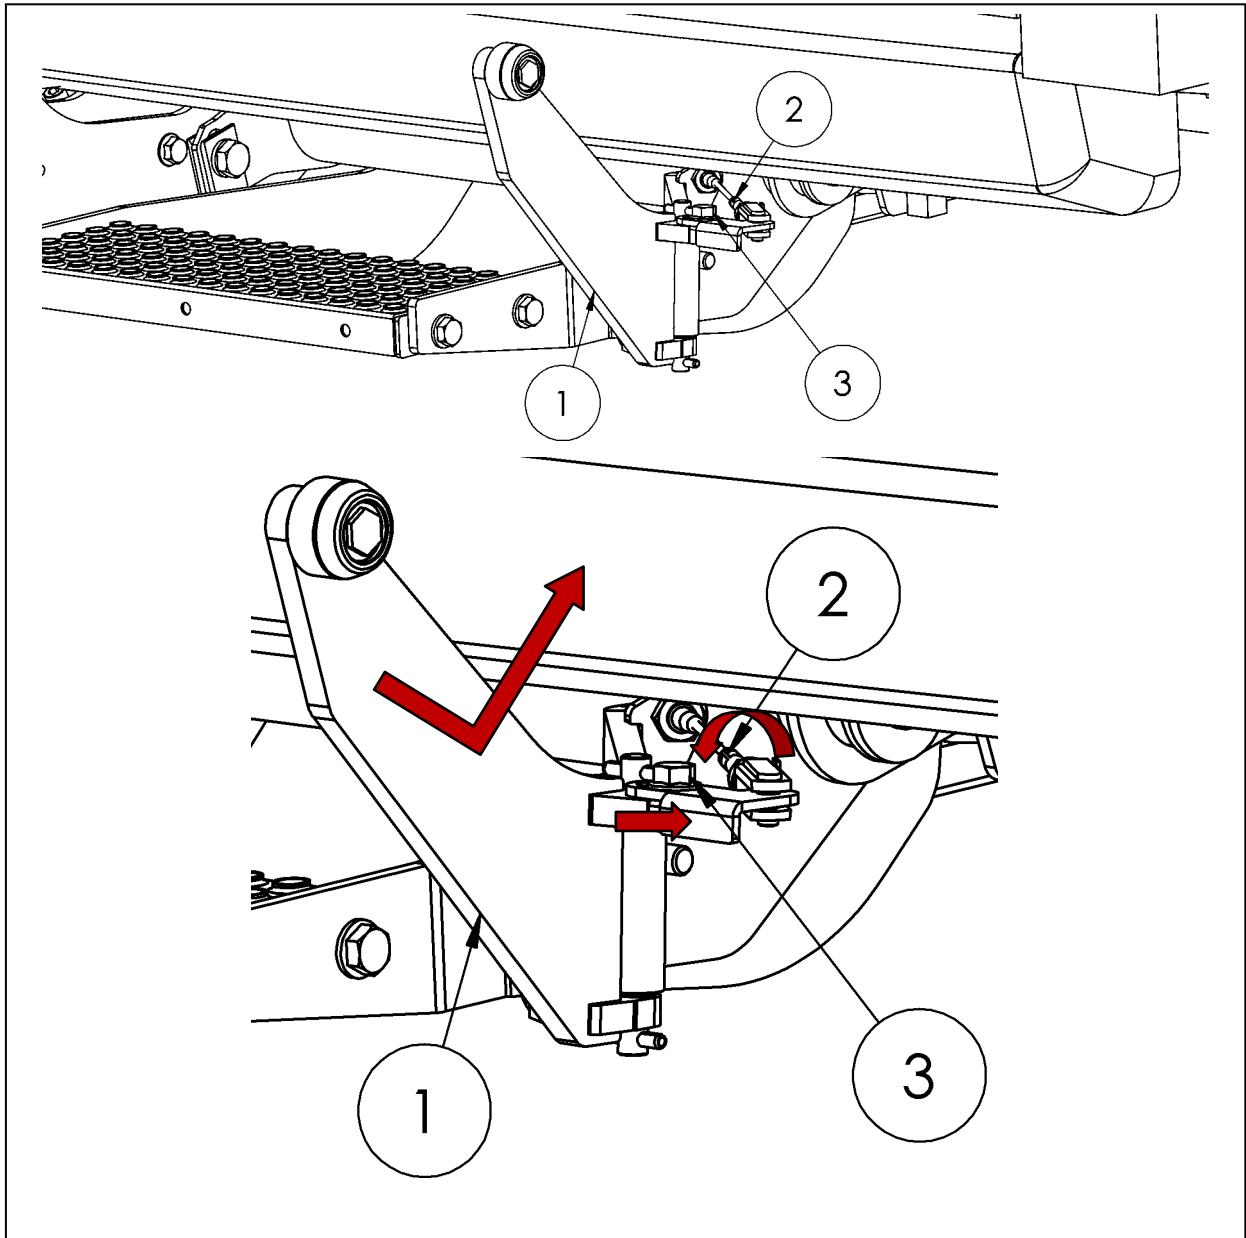

Figure 87
Adjust the support arm (1) so that it can be pulled as close to the vehicle as desired when the platform is closed. The adjustment is made outside at the Bowden cable (2) and, if applicable, also at the screw on the lever (3). While making the adjustment, release the Bowden cable (2) and open the platform (see Fig. 87).